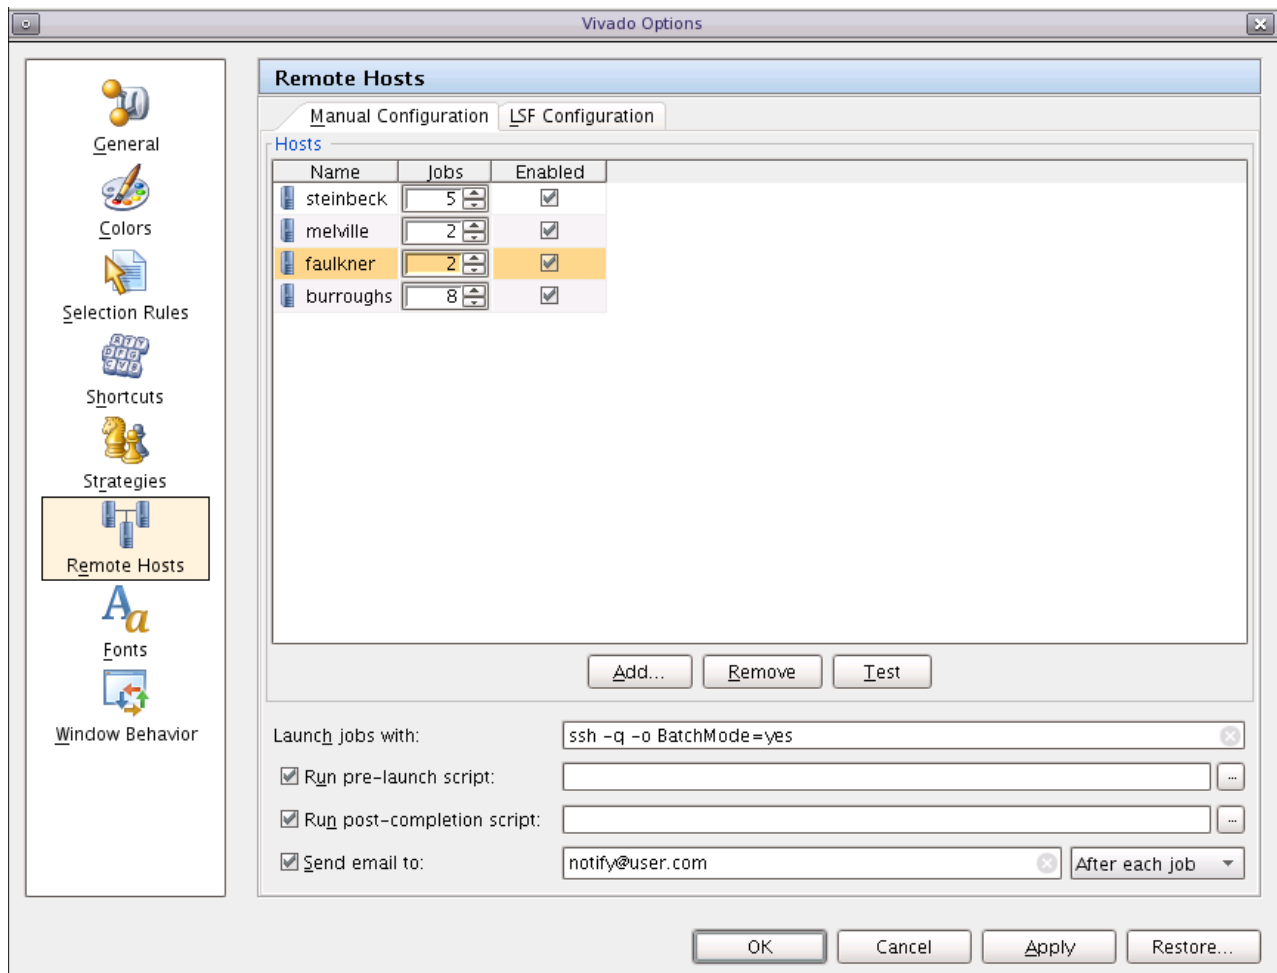

Figure A-4: Configuring Remote Hosts
- As shown in Figure A-4, the Options dialog box appears, with the Remote Hosts section selected. Click the **Manual Configuration** tab to see the list of currently defined remote Linux hosts.